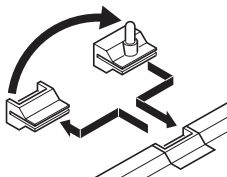

Figure 5
6. **Rotate cover pin.** Before mounting the chime base to the wall, turn the base vertically or horizontally (depending upon the chime cover) and slide the cover pin out of the chime base. Turn the pin over and slide the cover pin into the chime base (see Figure 5).